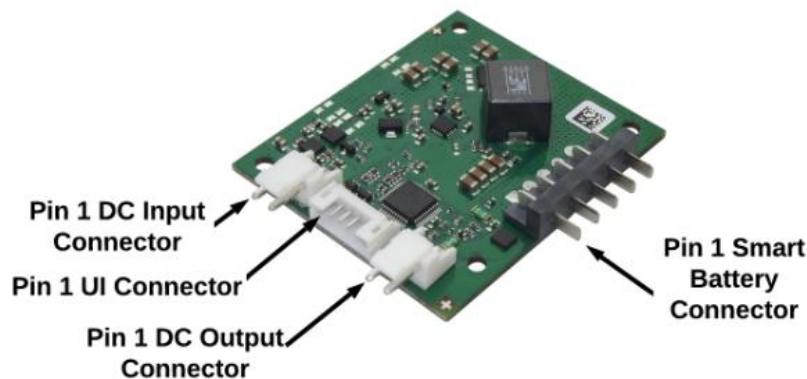

Figure 1 – Connectors sequence of PMM240
Figure 1 shows connector locations and pin-1-orientation of the DC input, DC output, and User Interface (UI) connectors.